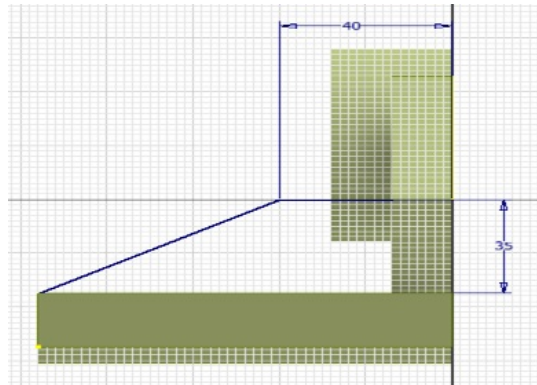

Figure 6-124 Sketch of the rib
1. Define a new sketch plane on the right face of the second feature and then draw the sketch of the rib feature. Add the required dimensions and constraints to the sketch, as shown in Figure 6-124.